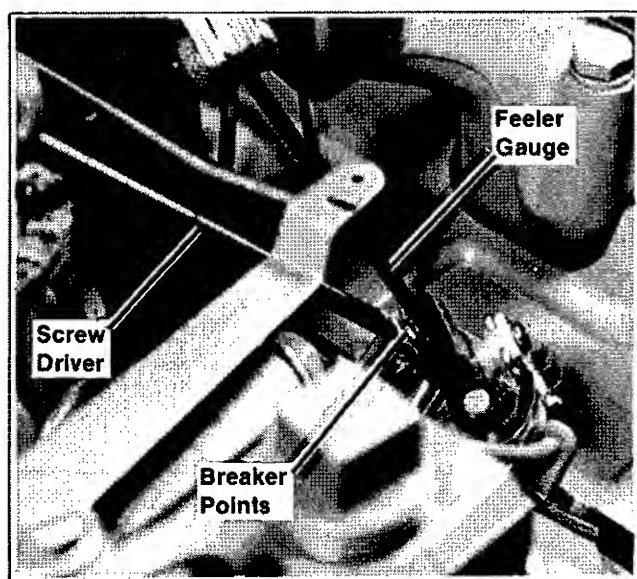

Figure 8-36. Adjusting Breaker Points
3. Adjust breaker points to an initial setting of .020" fully open (see Figure 8-36). For final timing procedure after engine assembly is complete, see "Ignition Timing" in Section 6.